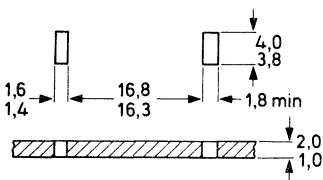

Fig. 3 Heatsink requirements.
2. Push the short end of the clip into the narrow slot in the heatsink with the clip at an angle of  $10^{\circ}$  to  $30^{\circ}$  to the vertical (see Figs 3 and 4).